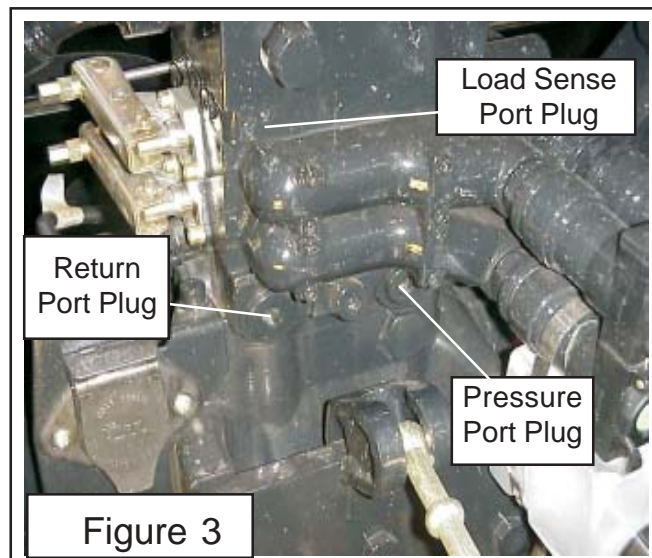

Figure 3
1. Preparing Tractor. At the rear of the tractor locate the hydraulic stack valve for the tractor hydraulic system. There are a total of three Allen head plugs that will be removed. 1 st. the pressure port plug, 2 nd. The return port plug and 3 rd. the load sense port plug. These plugs will be painted and this paint can cause the Allen wrench to fit tight, make certain the wrench is well engaged to prevent it from slipping out. Remove these plugs one at a time and install the correct fitting in it before going on to the next. (See Figure 3)